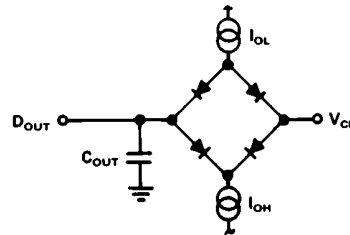

Figure 4. Load Circuit for Bus Timing Specifications
- ²Measured from the falling edge of $\overline{\text{OE/EOCEN}}$ (0.8 V) to the time at which the data lines/EOC cross 2.0 V or 0.8 V. See Figure 4.
- ⁵Measured from the rising edge of $\overline{\text{OE/EOCEN}}$ (2.0 V) to the time at which the output voltage changes by 0.5 V. See Figure 4; $C_{OUT} = 10\text{ pF}$.